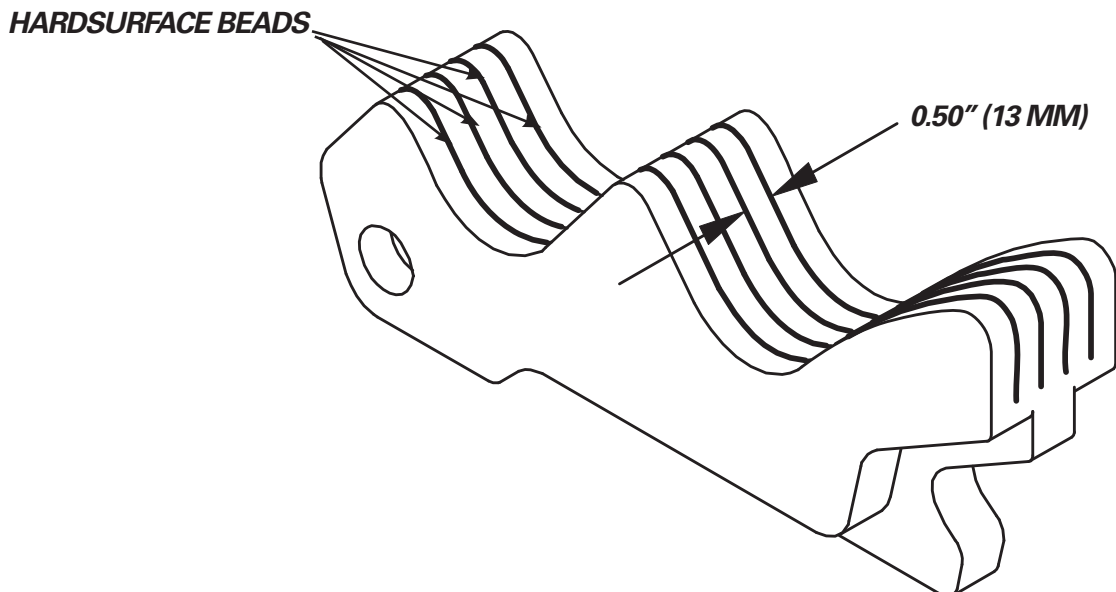

FIGURE 5-6
5. Start hardsurfacing the tooth by applying parallel passes of AWS E7018 build-up running the length of the tooth (figure 5-6). These single passes should be 1/2" (13 mm) apart and will serve as an underlayment for the hardsurface rod.